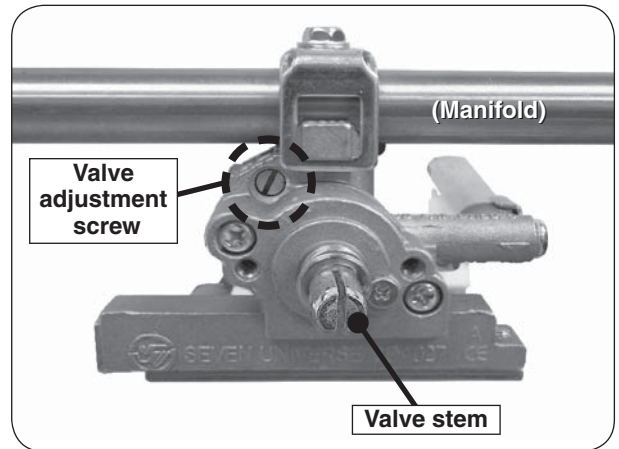

Fig. 29-1 Valve adjustment screw location
5. Locate the FLATHEAD adjustment screw found above the valve stem and below the manifold (see Fig. 29-1).